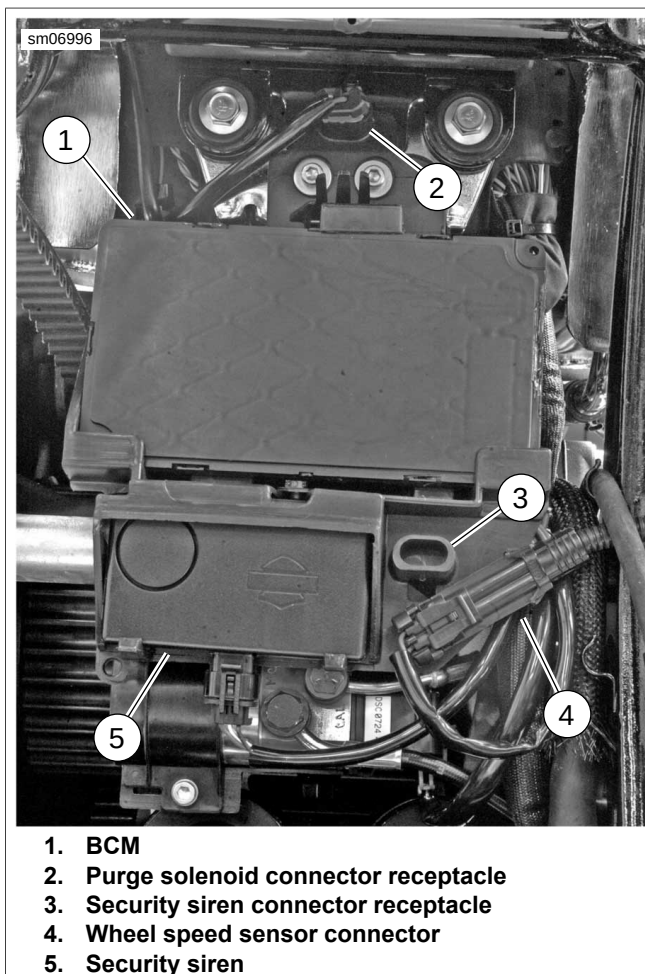

Figure C-12. Body Control Module (BCM): All But FXSB
3. See Figure C-12. Disconnect rear wheel speed sensor connector (4).